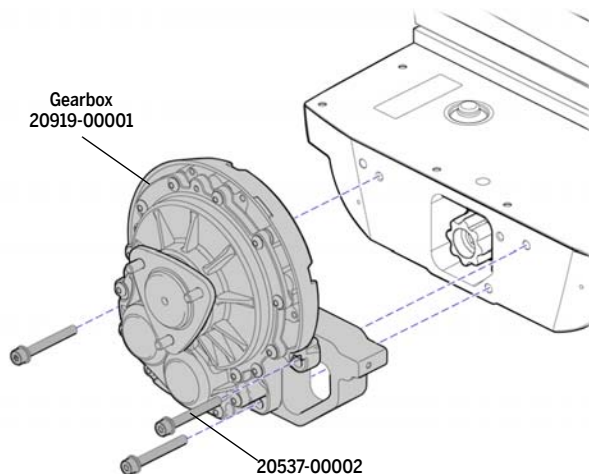

Figure 8-8: Install Gearbox Fasteners
10. Install (3) *new* gearbox fasteners (20537-00002). Thread in by hand, and then torque to 40 N-m using T-45 6-lobe wrench with 3/8"-drive socket. See Figure 8-8.